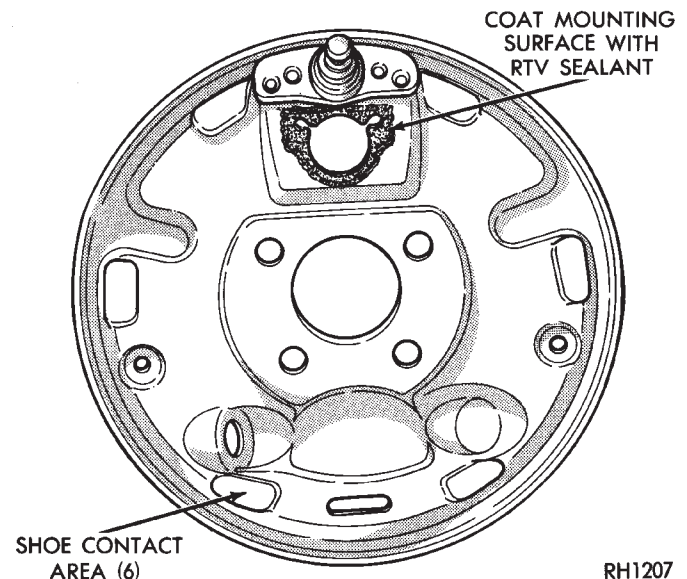

Fig. 4 Apply Sealant on Support Plate
- (1) Apply Mopar® Gasket In-A-Tube or equivalent sealant around wheel cylinder mounting surface (Fig. 4).